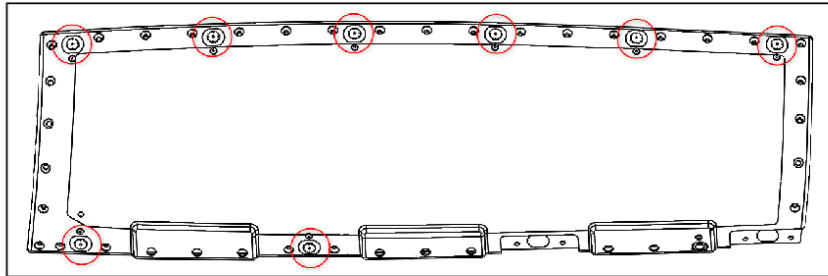

Figure 4: Screw Locations on Pod Assembly Cover (LH shown, RH opposite)
1. Remove the cover from the forward pod assembly by unscrewing the eight screws (P/N 601.2279) on the front of the cover as indicated in Figure 4.